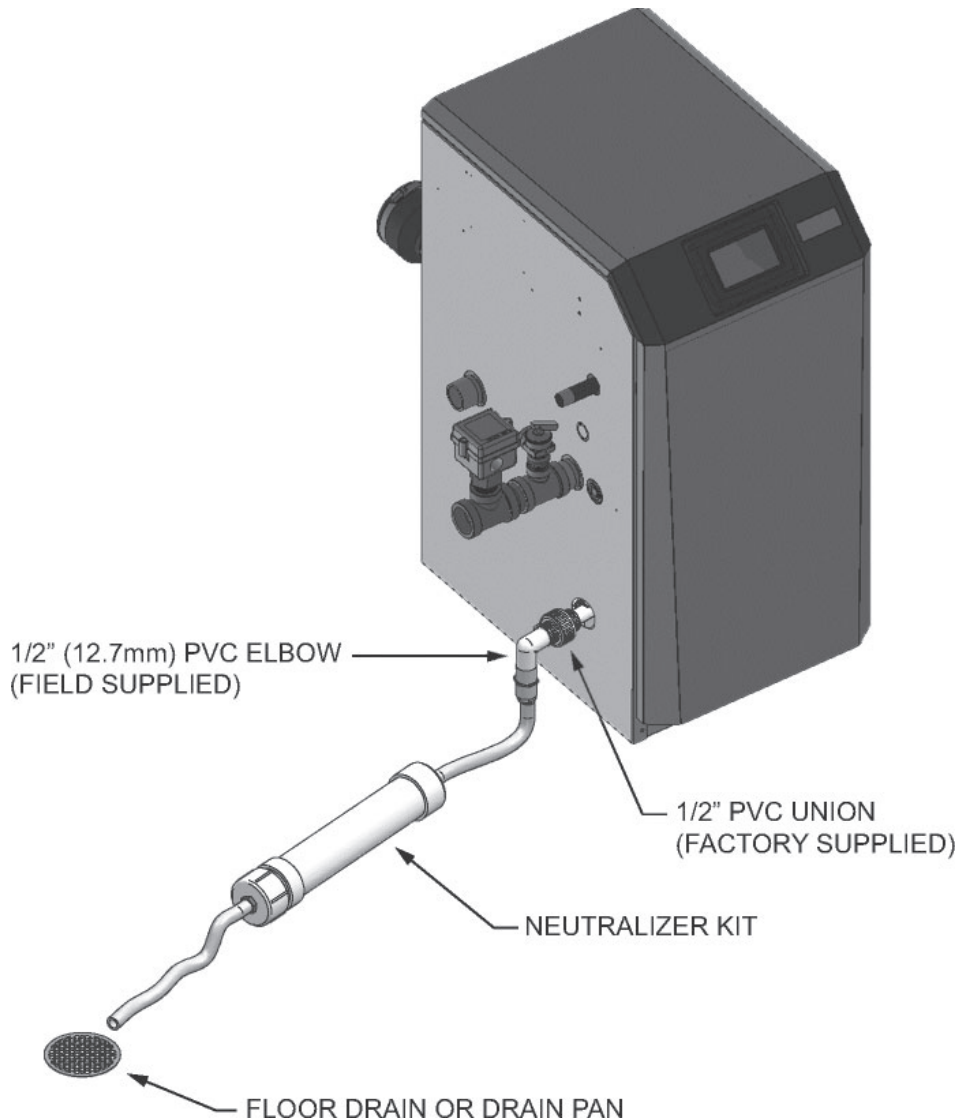

Figure 73. Condensate Disposal
2. The side of the water heater has a 1/2 inch PVC union for connection of a 1/2 inch PVC pipe (Figure 73).
A Neutralizer Kit (Figure 73) is available from the factory (100272807 for Models 150 - 500 and 100285867 for Models 600 - 800).
4. Install the 1/2 inch PVC elbow (field supplied) as shown in Figure 73.
6. Use only plastic tubing or piping as a condensate drain line (Figure 73).